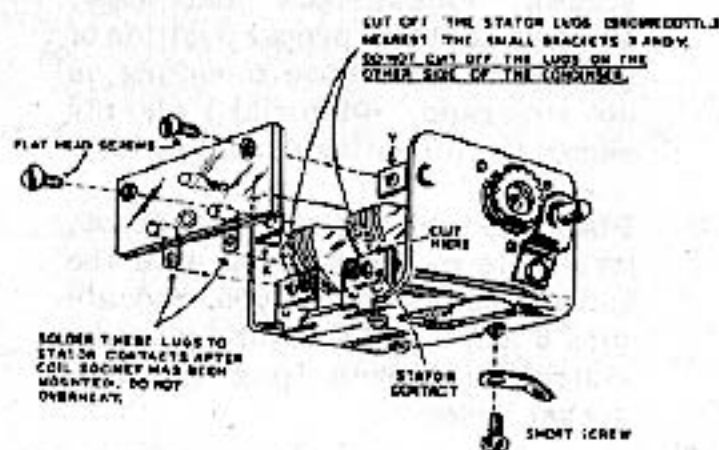

Figure 3
- () Study Figure 3 and cut off the two stator lugs indicated. These lugs (shown dotted) are nearest the small brackets which are riveted to the condenser frame.
- () Mount the coil socket on the tuning condenser frame as shown in Figure 3. Use two 6-32 flat head screws.
- () Solder the two outside coil socket lugs to the nearby stator contact as shown in Figure 3.
- () Place a length of bare wire between solder lug and unused coil socket prong (S).
- () Mount another solder lug on the tuning condenser frame as shown in Figure 3. Use a short 6-32 screw.